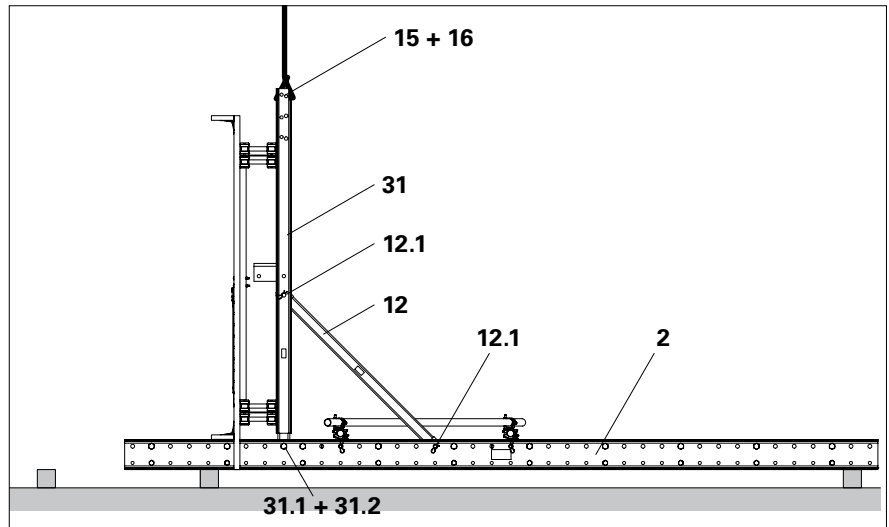

Fig. C4.08
3. Mount the Diagonal Strut (**12**) on the Intermediate Platform Beam and Climbing Rail using the provided 2x bolts 25 x 180 (**12.1**) and 2x cotter pins. (Fig. C4.08)